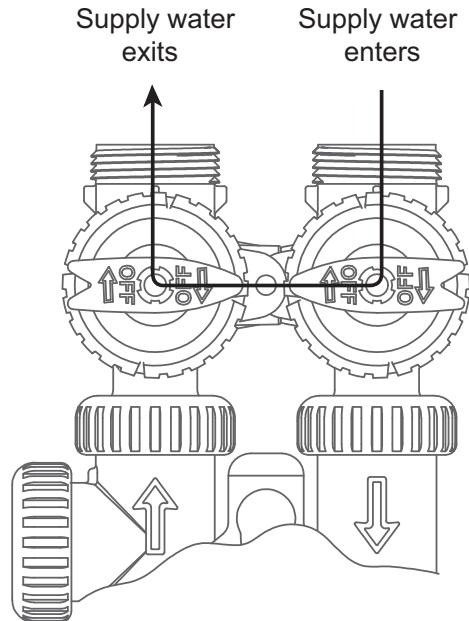

Figure 2 Bypass Position
- Bypass Position:** The inlet and outlet handles point to the center of the bypass. The system is isolated from the water pressure in the plumbing system. Untreated water is supplied to the building. Refer to Figure 2.